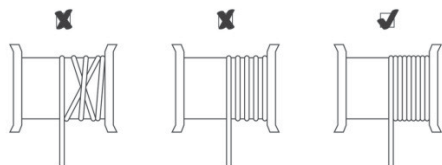

Fig.2
12. Before using this hoist, make sure that the steel cable is correctly winded around the rope drum with the pitch equal to the diameter of the steel cable. (See *Fig. 2*).
13. Make sure that the load is properly secured to the lifting hook (7) or the pulley and the operator shall always keep certain distance with the load and the steel cable (6).